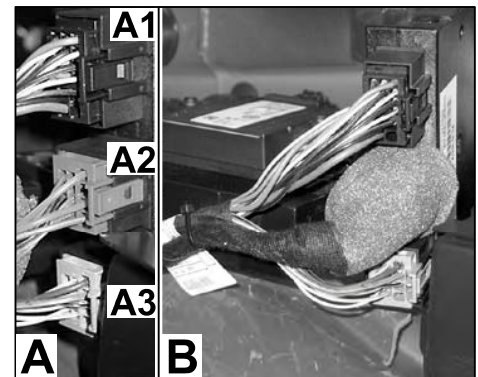

Figure 18
3.6 Plug in connector A (black ⇒ *Figure 18 -A1-*)/connector B (red ⇒ *Figure 18 -A2-*)/connector C (blue ⇒ *Figure 18 -A3-*) from top to bottom on the trailer hitch control unit.
Position foam sleeve (prevents rattles and chafing) back over connector B ⇒ *Figure 18 -B-*.